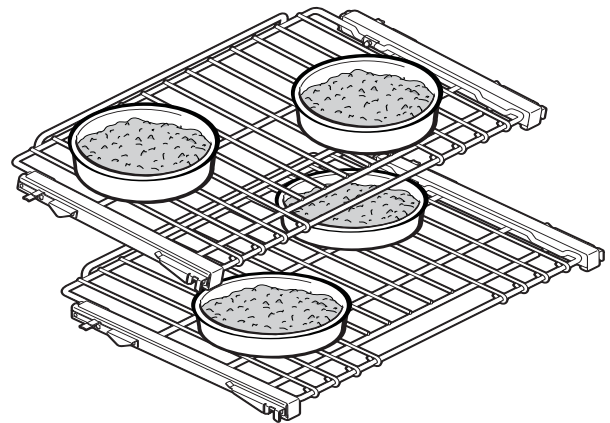

Figure 27: Pan Placement
- Racks #2 and #4 are most appropriate when using the convection bake mode. Cookie sheets should not be staggered but the cookie sheet on rack #2 should be placed directly under the one on rack #4 or #5. Stagger round cake pans (see *Figure 27*).
- Cookie sheets with only two sides give the best results. Aluminum commercial half-sheets or professional cooking utensils may be used (see *Figure 27*).